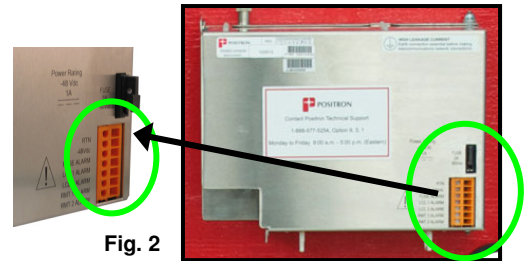

Fig. 2
**1.4.3** If a -48Vdc source is already locally available, feed the -48Vdc in through the universal, fused power input terminal block and connect the pre-installed Orange and Yellow conductors to the -48Vdc .input power terminals located on the side of the TeleLite 3-slot "Swing-Out" shelf. See Figure 2.